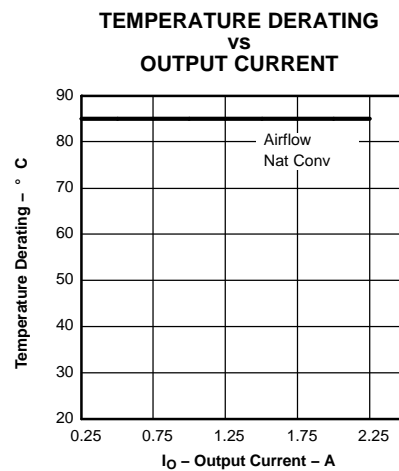

Figure 9.
- (2) The temperature derating curves represent the conditions at which internal components are at or below the manufacturer's maximum operating temperatures. Derating limits apply to modules soldered directly to a 100-mm x 100-mm, double-sided PCB with 2-oz. copper. Applies to Figure 9.